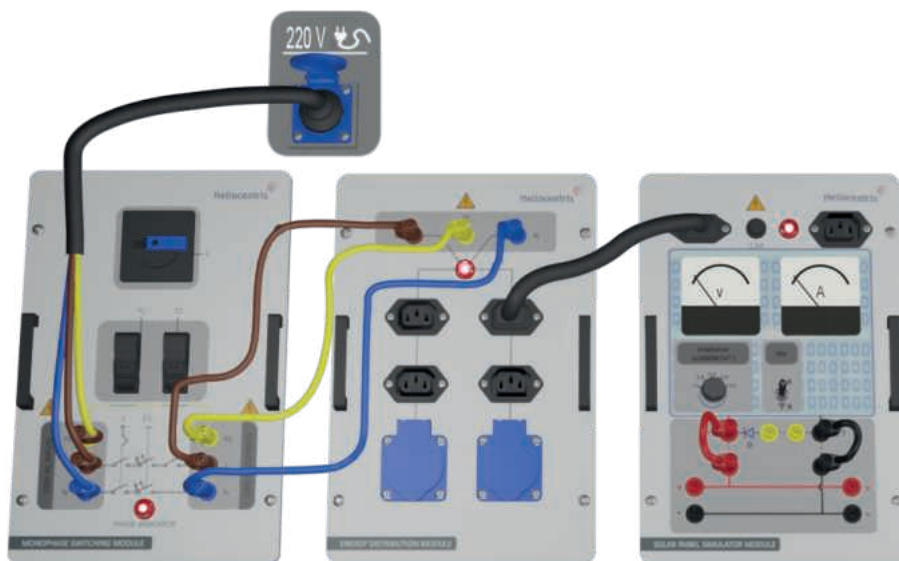
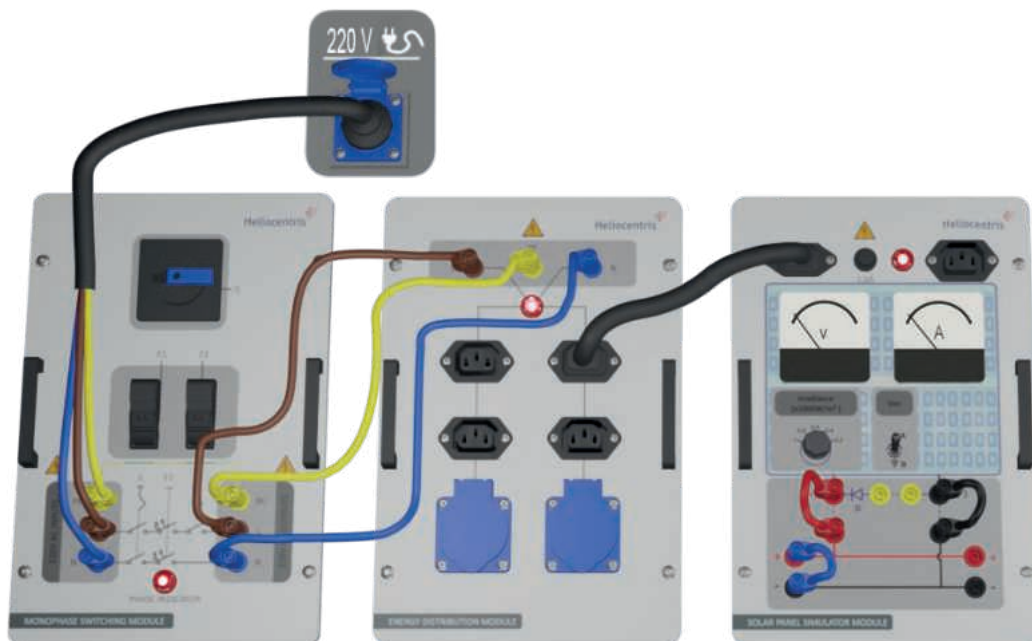

Figure-54. Installation Image of Solar Panel Examination of Solar Panel Simulator
Figure-55. Installation Image of Solar Panel Examination of Solar Panel Simulator (Short-Circuit Current)
3. The next step is to make the power connections to the Solar Panel Simulator Module and then install the experiment by making the connections using the banana jack cable as shown in Figure-54.
6. Make the connection shown in Figure-54 to measure the short-circuit current of the photovoltaic panel. The A-B selector has no effect on the short-circuit current (see Figure-55).